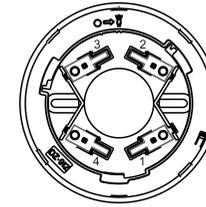

Fig.2
1. Fig.2 is the schematic diagram of the matched mounting base.